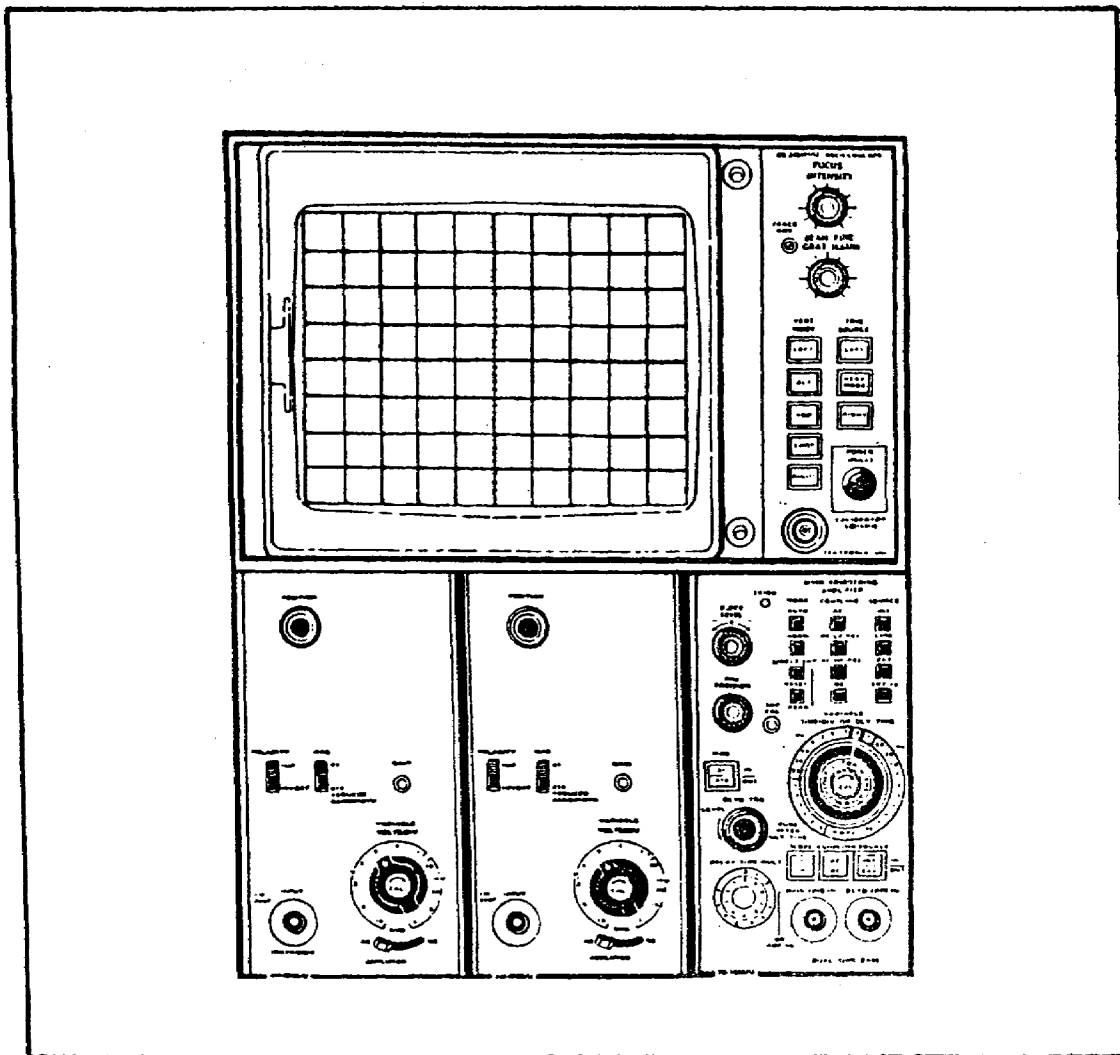

FIGURE 96. AN/USM-281C OSCILLOSCOPE
a. *Equipment Description.* The oscilloscope is a light-weight, solid-state instrument designed for the general purpose of waveform measurements using single- or dual-trace displays with normal or delayed sweep. It consists of the oscilloscope OS-245(P)/U (main frame), the oscilloscope vertical amplifier plug-in unit, AM-6565/U (vertical amplifier, two required), the oscilloscope dual time base plug-in unit, TD-1085/U (dual time base), and the instrument cover and accessory group. These units are described in the following paragraphs. Figure 96 shows an overall view of the AN/USM-281C oscilloscope.